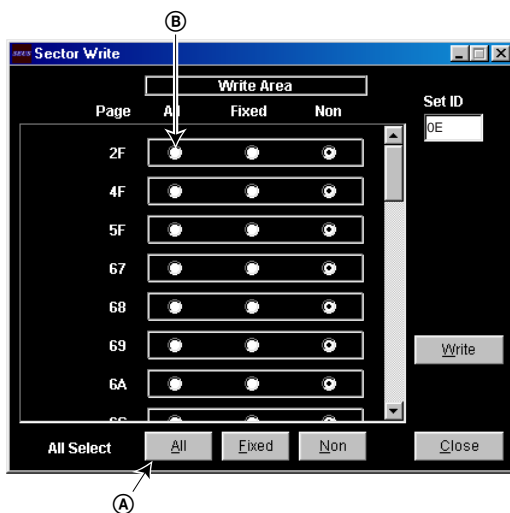

Fig. 6-1-68
- 4) Click **[All]** of the ALL SELECT buttons to select all pages. (Fig. 6-1-68 **(A)**)
- 4) Click "All" of the option buttons of target page. (Fig. 6-1-68 **(B)**)